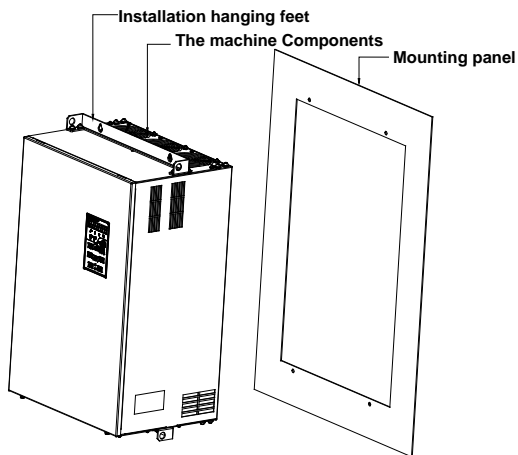

Fig.3-6 15.5~200kW Wall installation
5.5~200kW Install the drive mounting bracket as shown in FIG 3-6. Wall installation dimensions refer to Chapter II (table 2-4), As shown in Fig drilling four holes in the mounting surface, Put the inverter against the panel and mate 4 holes, and then tighten screws in the 4 holes tighten any of the 2 screws in diagonal position, tighten 4 holes with screws for strengthened installation.